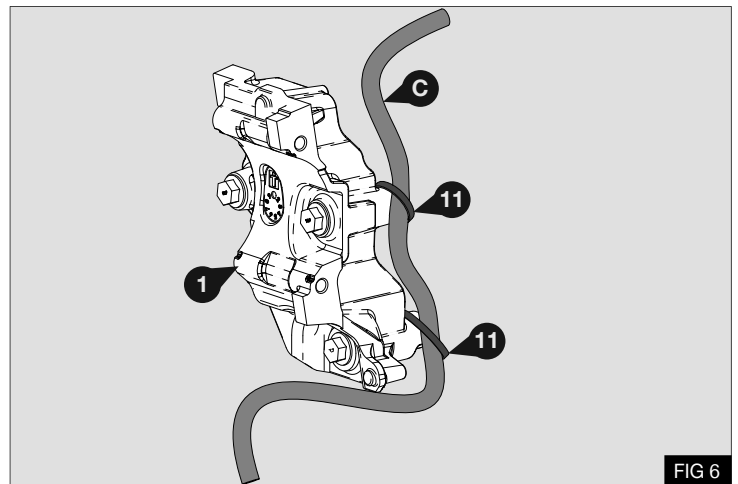

FIG 6
3. Secure the loom assembly (C) to the mount bosses on the bracket (1) using the supplied cable ties (11) - Fig 6